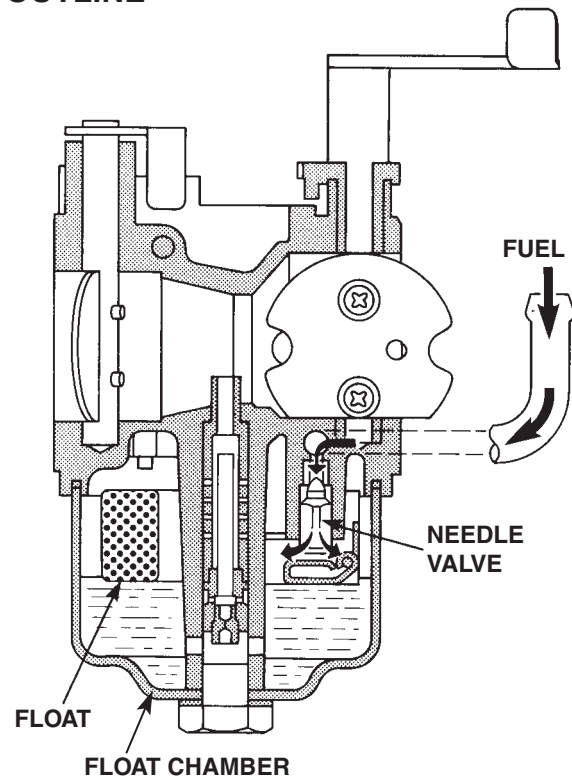

Fig. 12-1
(1) Release the reel spring power
- 3 Hold the reel down firmly with both thumbs, taking care not to allow it to spring back. (Fig. 12-1)